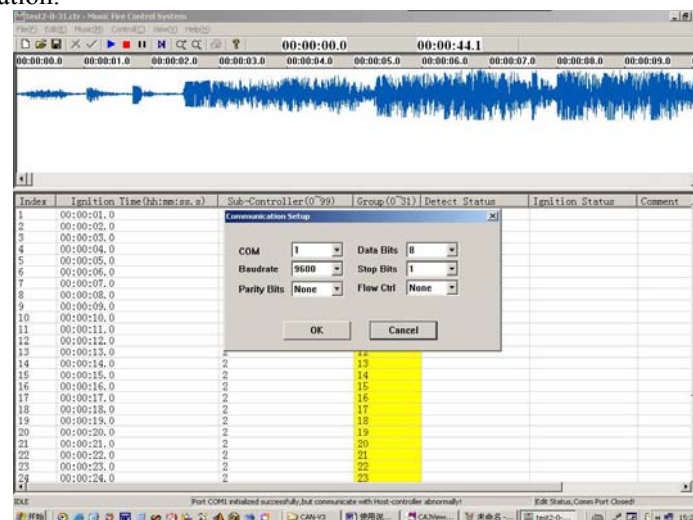

fig 33 Communication Setup
- 4、Click the menu “Control” → “Communication Setup”, a dialog show as fig 33 will popup, in this dialog select the COM port “1”, then, the program will use the COM1 to communicate with the host-controller. In General, only alter the number of COM port is enough, others option not needed alteration.
1、If “COM Port * initialized failure” is show in the status bar when the control software start up, then the control system is abnormal. There are two causes: (1) the COM port is not exist, please follow the fig 33; (2) Program was not exit normally last time, the process was not ended. Please open the task manager, if the “FireExpert.exe” is exist in the process card (as show in fig 34), then end the “FireExpert.exe” process, attempt to start the control software again.